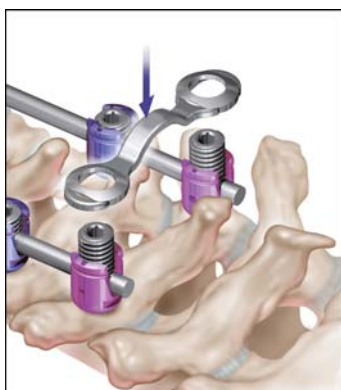

Figure 25c
- Choose the appropriate size Cross Connector and contour as needed, using the Bending Irons provided. Place Cross Connector onto screw heads so the Double Inner Set Screws extend through the Cross Connector (Figure 25c).